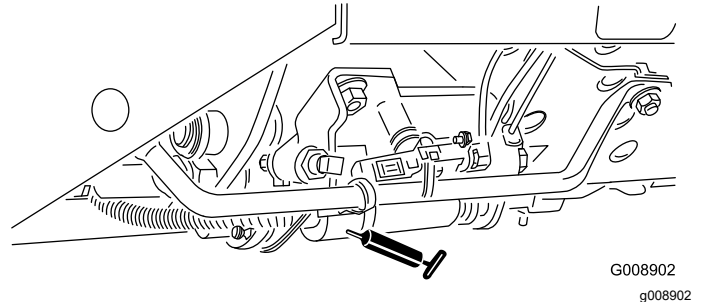

**Figure 40**
- Neutral-adjustment mechanism (Figure 40)